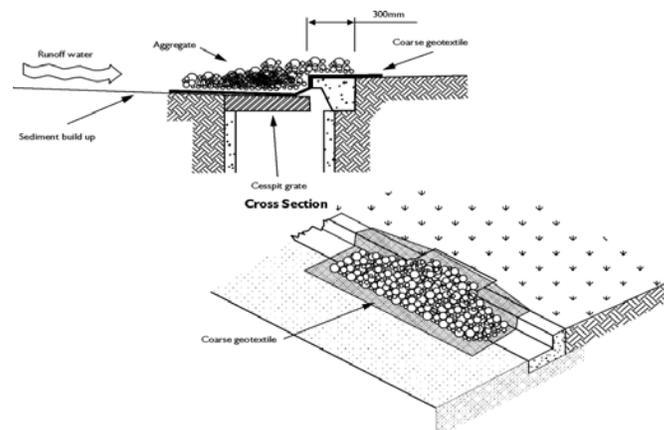

Figure 1 – Filter Fabric Over Storm Drains and Sewer Inlets
- Use filter fabric over storm drains and sewer inlets prior to discharging any water to them (see Figure 1);